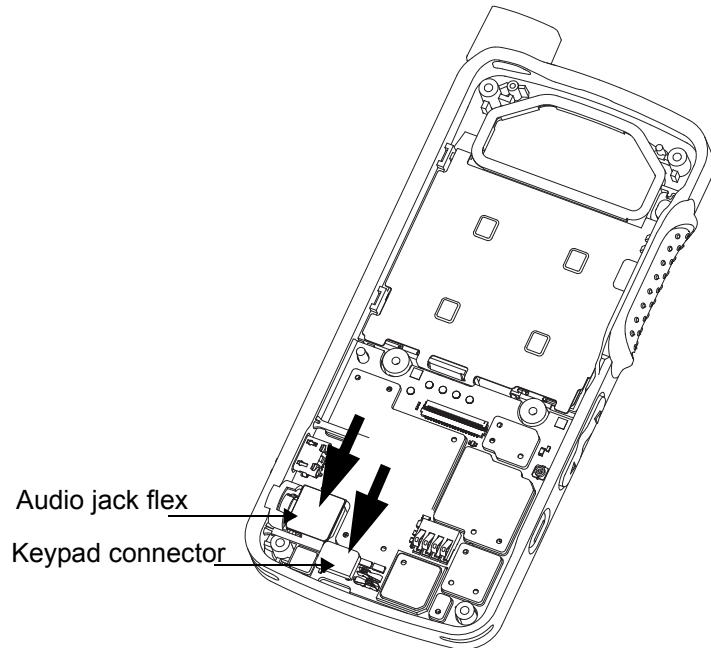

Figure 5-24. Audio jack flex connector and keypad connector reassembly
2. Attach the audio jack flex connector and keypad flex connector to the main board as shown in Figure 5-24.